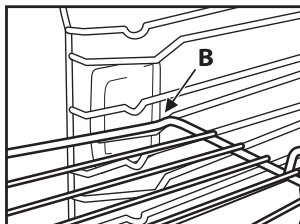

Fig. 2
2. Angle the wire shelf when it reaches the locking position "B" (Fig. 2).